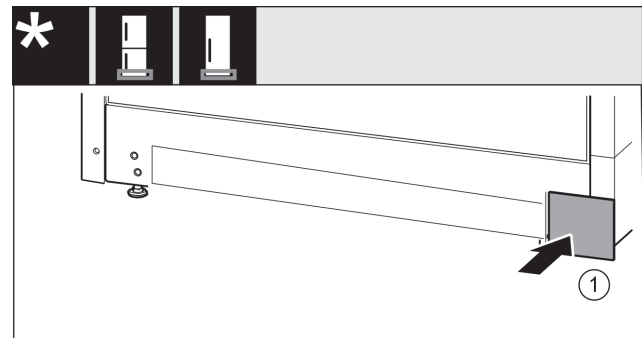

Fig. 19
- ▶ Re-attach the cover Fig. 19 (1) on the other side.